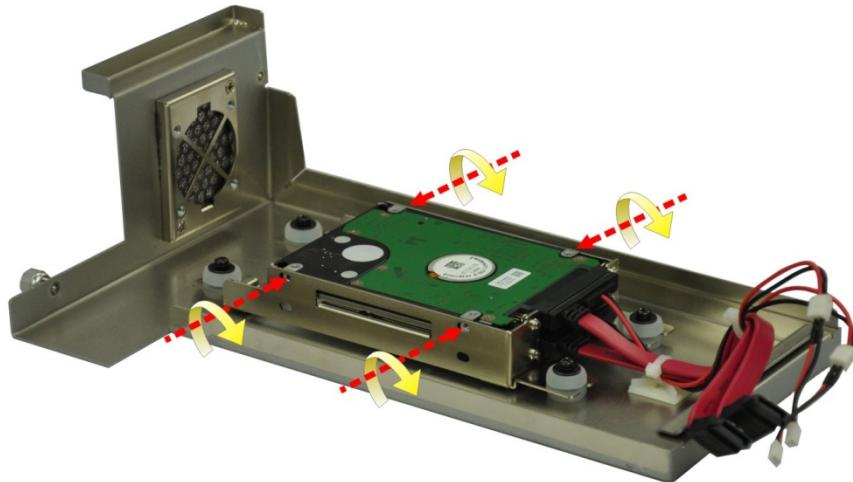

**Figure 3-2: Remove the Cover from TANK-870AI series**
**Step 2:** Unplug the SATA signal and power cables connected to the TANK-870AI series, and then put the cover on a flat surface (**Figure 3-2**).
- Step 2:** Unplug the SATA signal and power cables connected to the TANK-870AI series, and then place the cover on a flat surface (**Figure 3-2**).
**Step 2:** Unplug the SATA signal and power cables connected to the TANK-870AI series, and then place the cover on a flat surface (**Figure 3-2**).